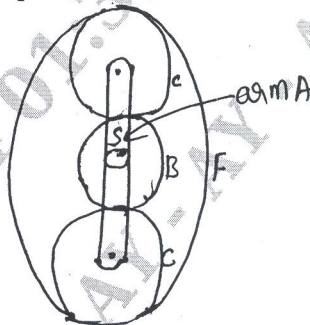

Fig Q4(b)
b. In an epicyclic gear train shown in Fig Q4(b), the arm A is fixed to the shaft 'S'. The wheel 'B' having 100 teeth rotates freely on this shaft 'S' wheel 'F' 150 teeth is separately driven. If the arm A runs at 200rpm, wheel F 100rpm in the same direction find.